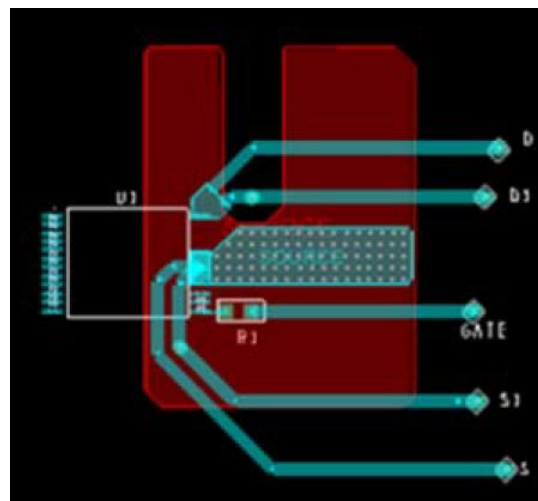

Figure 24. Thermal Resistance Test Conditions for PowiGaN Devices (INN3678C, INN3679C and INN3670C).
Testing performed on custom thermal test PCB as shown in Figure 24. The test board consists of 2 layers of 2 oz. Cu with the InSOP package mounted to the top surface and connected to a bottom layer Cu heat sinking area of 550 mm².
4. Please see Figure 24.